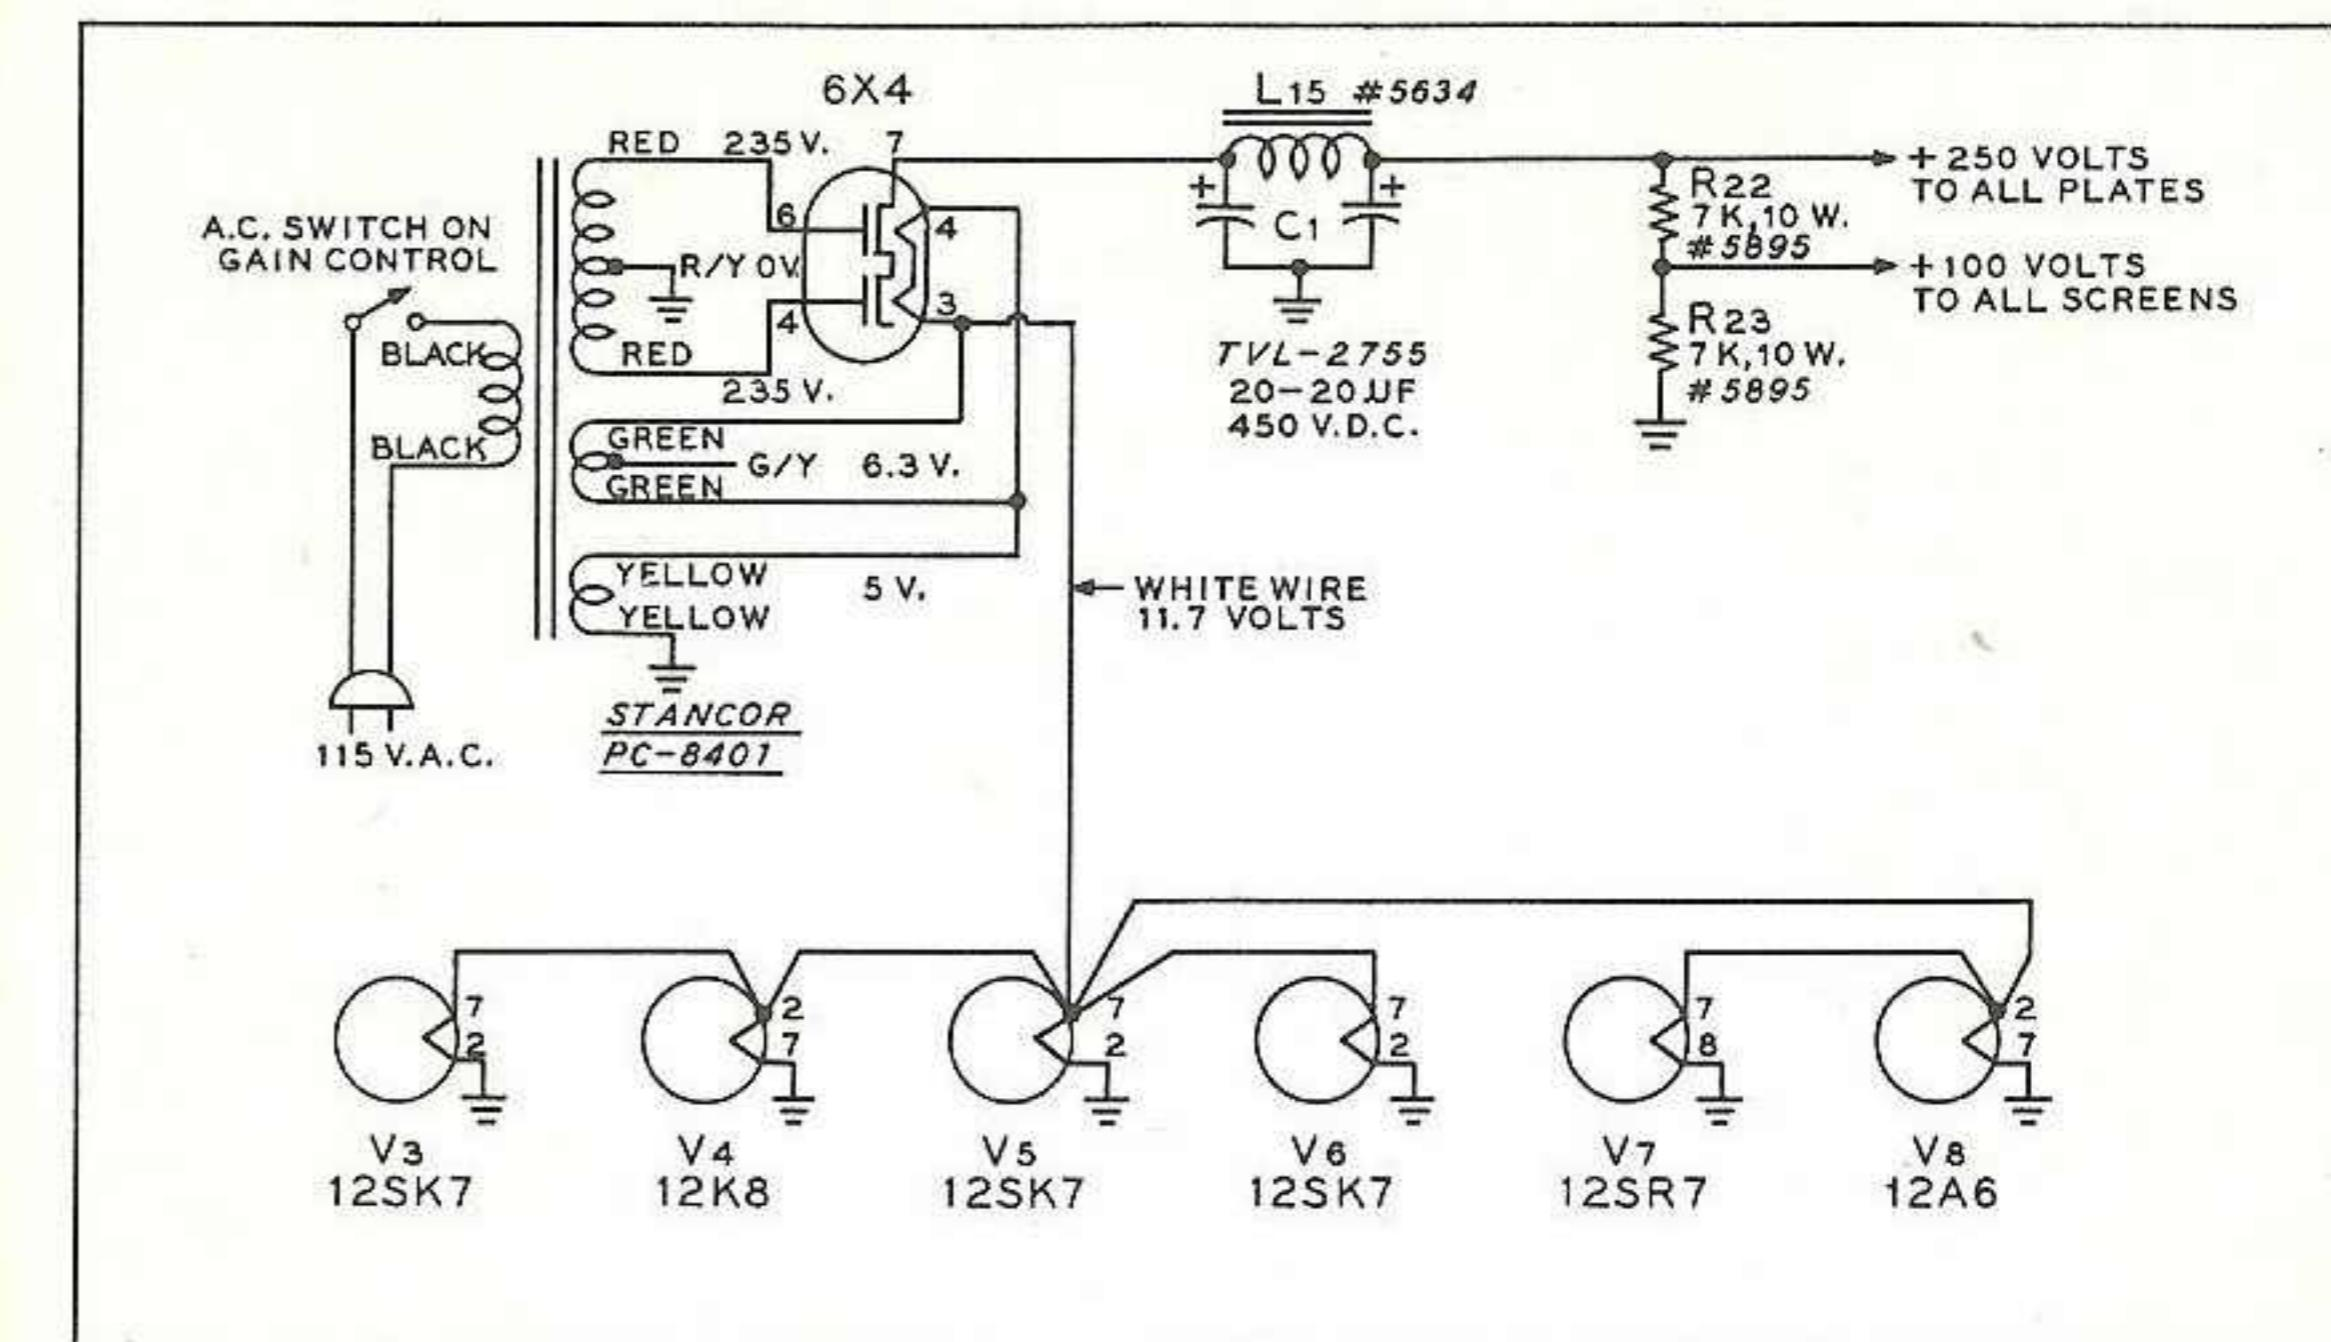

Fig. 10 Filaments of "Command" receiver are rewired in parallel to operate from seriesed 5 volt and 6.3 volt filament windings of the power transformer.
- () Connect a wire from pin 7 of the 6X4 socket to one B-plus (center) terminal of the filter capacitor (C1, Figure 10). If the capacitor is mounted with a phenolic wafer, one of the shell terminals should be grounded to the receiver chassis. Trim the lugs of C1 so they do not touch L-15 when it is reinstalled. Connect two 3" wires to the two terminals of L-15.